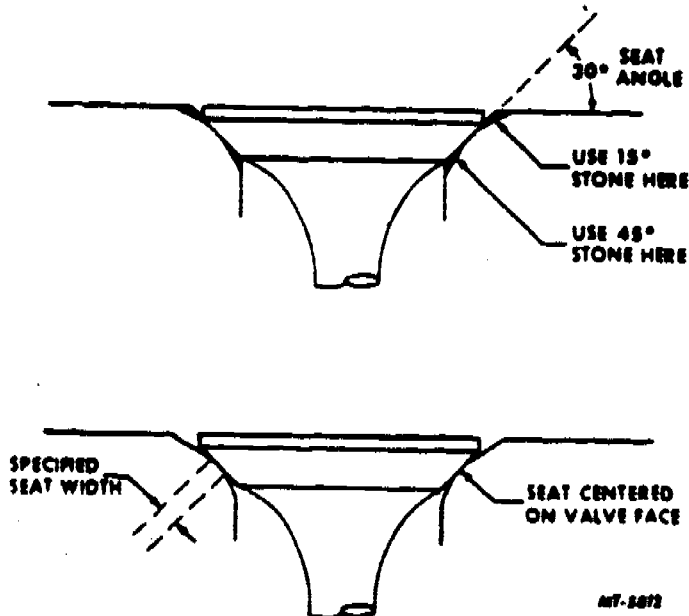

Fig. 69 - Narrowing Valve Seat Widths.
4. After grinding the seats, it may be found that the seats are considerably wider than the width recommended in the "Specifications". Valve seats that are too wide may be narrowed by grinding the top and/or bottom edge of the seat to reduce the width (Fig. 69). The finished valve seat should contact the approximate center of valve face. To reduce the height of the valve seat use a 15° angle stone and to raise the valve seat use a 45° angle stone.